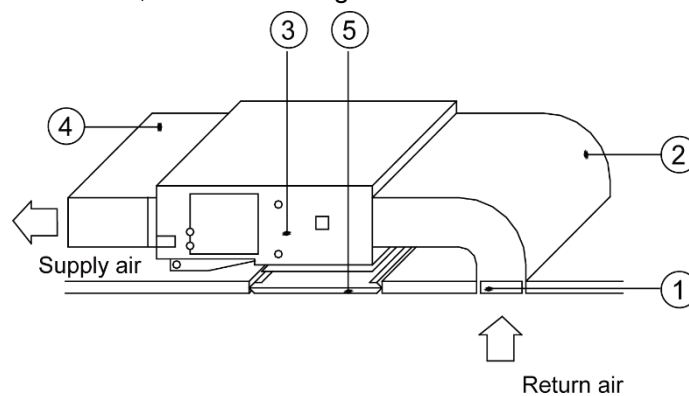

Fig 4.4.5
- (2) The installation method can be chosen with considering the conditions of the building and maintenance etc., as shown in Fig 4.4.5.